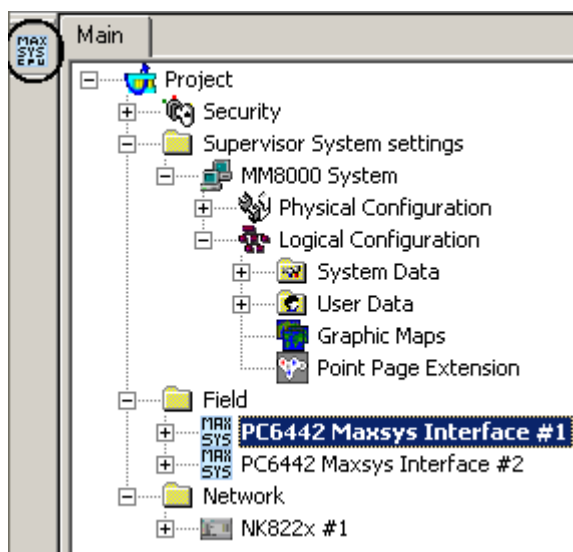

Fig. 14 Adding a MAXSYS subsystem (A)
2. Select the MAXSYS CPU icon  (see Fig. 14):